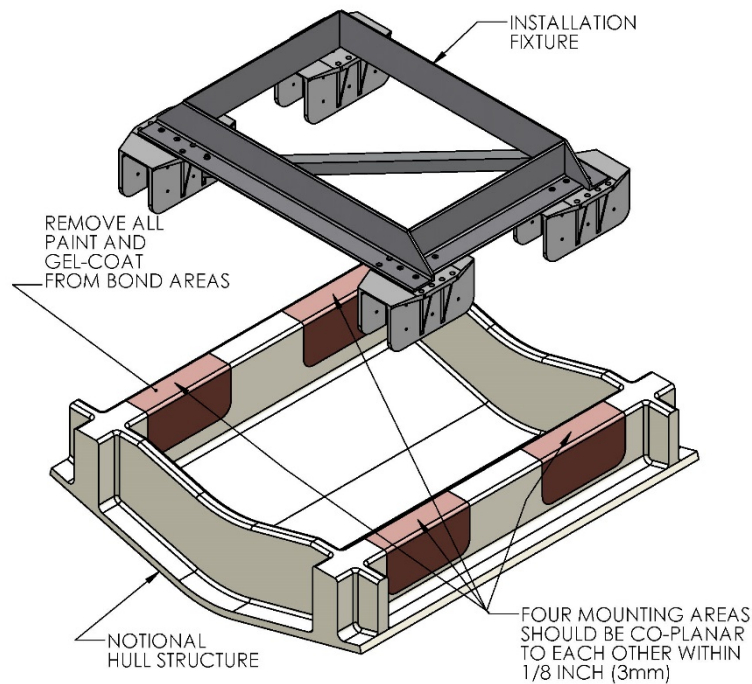

**FIGURE 9 – SADDLE INSTALLATION FIXTURE ON NOTIONAL HULL STRUCTURE**
6) Lower fixture and saddles over the hull structure and apply light downward pressure to each of the four saddles until the four nylon screws rest on the hull structure (SEE FIG. 9). The adhesive will be forced towards the forward and aft ends of each saddle and partially down the sides of the foundation beams